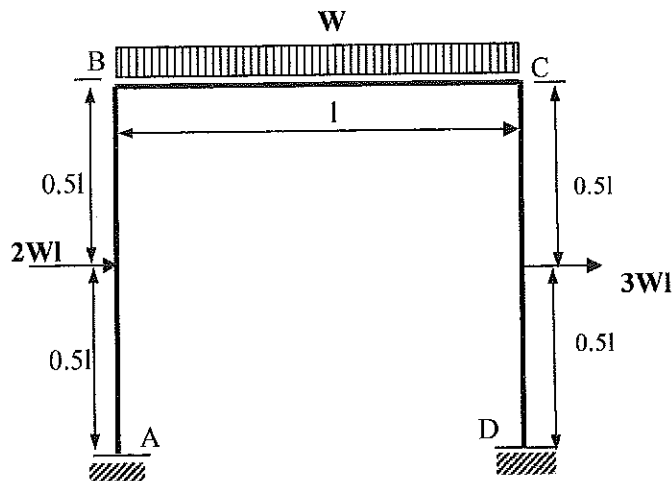

Figure Q4
- (i) A portal frame structure shown in Figure Q4. All members have same flexural rigidity ( $EI$ ). You can neglect the axial deformation.